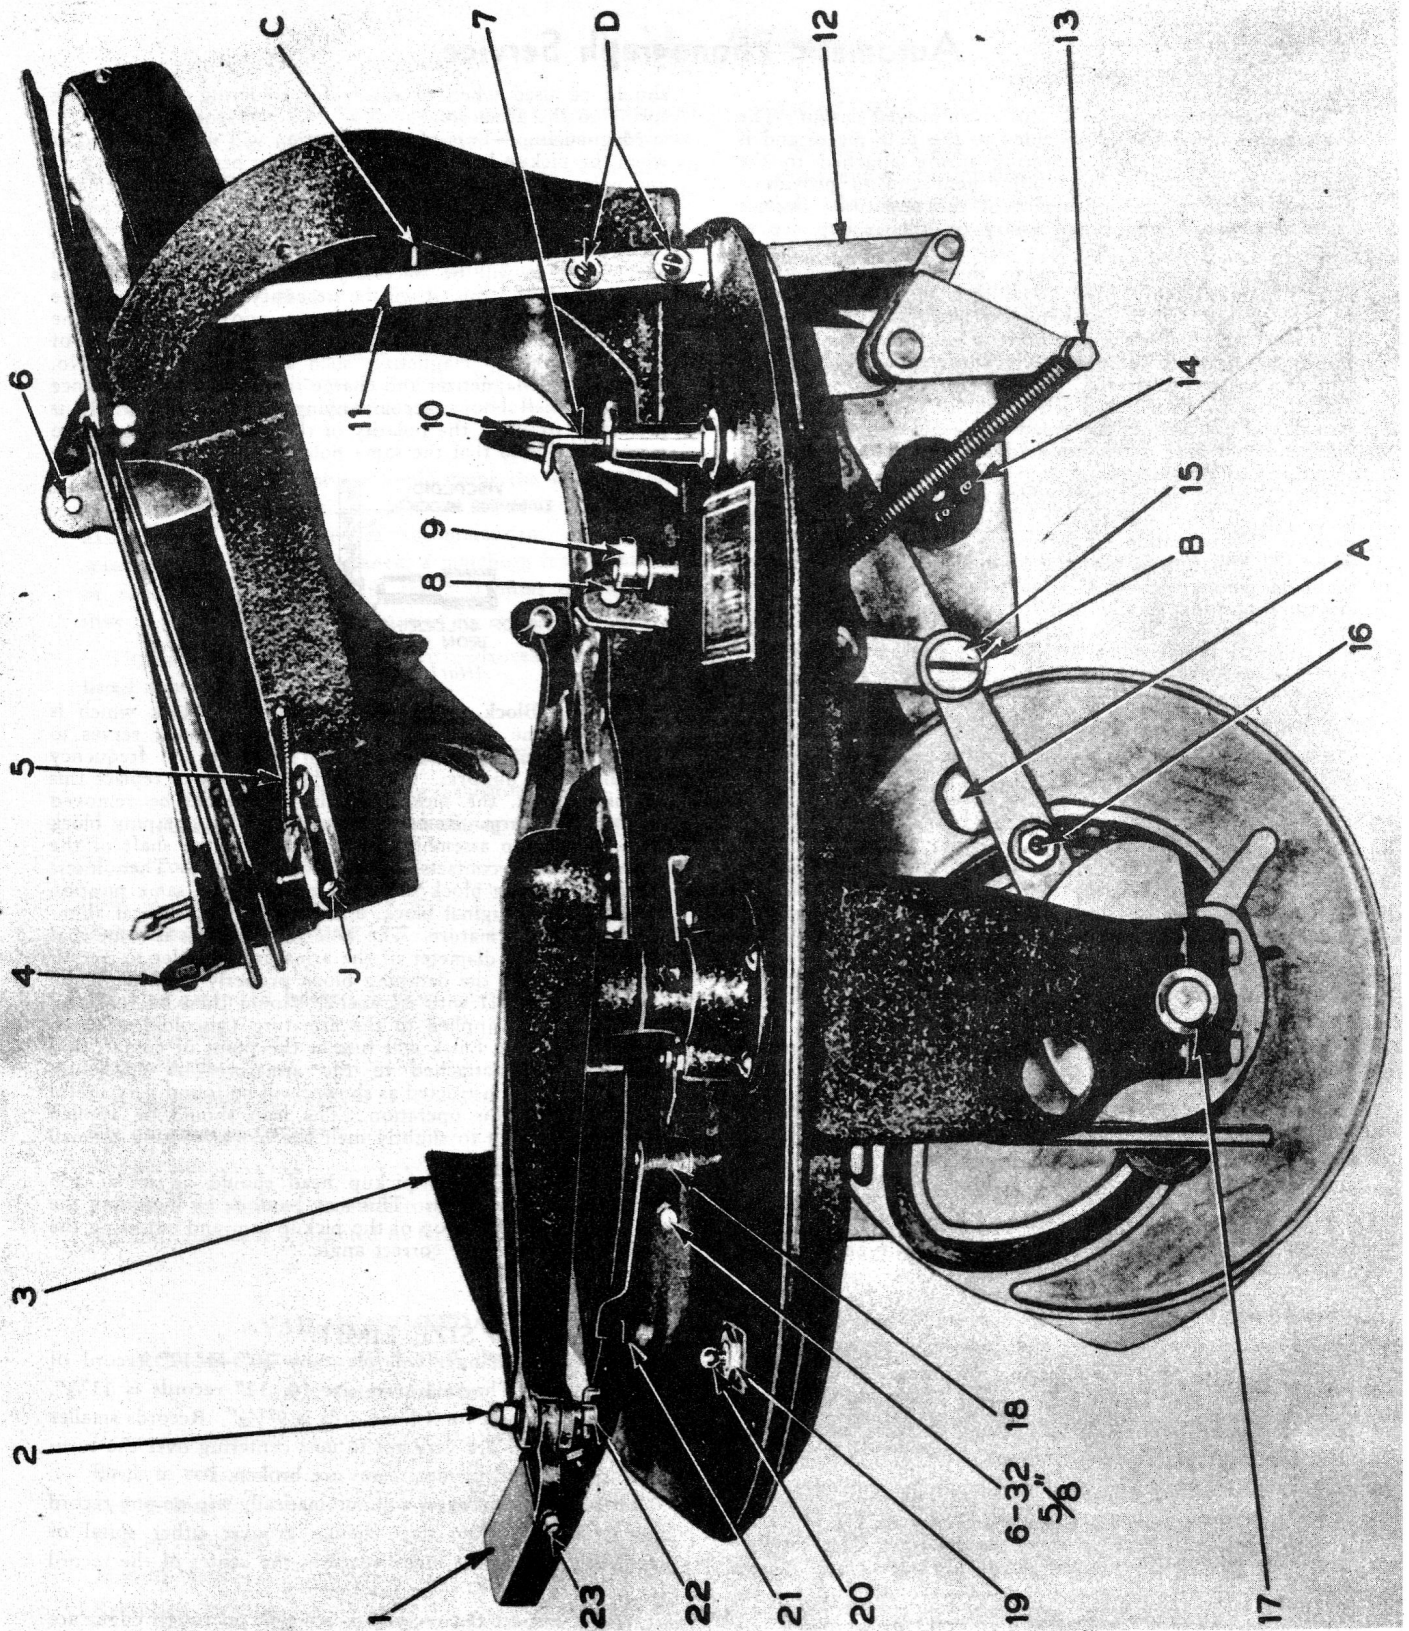

Fig. 1
**Pickup Angle.**—The pickup head should be set at 15° angle to the pickup arm. This may be done by loosening the nut No. 2, Fig. 1 on top of the pickup arm and adjusting the pickup bracket to the correct angle.
NEVER OIL THE "DUREX" BUSHINGS (one of which is shown as No. 17 in Fig. 1), AS THIS WILL CAUSE THEM TO DISINTEGRATE.
## 1. MAGAZINE LINK ADJUSTING SCREWS ("D") (Fig. 1).
The record magazine should always come back snugly against the magazine stop screw, "C," Fig. 1. If it does not, it is necessary to loosen the two set screws ("D," Fig. 1) to a sliding tension and run the record changer through a cycle of change. When the magazine has reached the horizontal position, as shown in Fig. 1, press down on the lower end of the magazine; this will lengthen the link assembly. Then when the magazine returns to its normal position, the magazine link will adjust itself so that the magazine is snugly against the stop screw. Then tighten the magazine link screws "D."
The separator stop "J," Fig. 1, should be adjusted so that a small 10" record will positively clear the knife portion of the separator lever as shown in the following illustration. A
standard to use is to make certain that there is approximately  $\frac{1}{32}$ " clearance between the edge of the small record and the point of the separator lever, as shown at "A" in illustration below. However, it may be necessary to vary one way or the other from this measurement, depending on whether or not the slotted end of the record separator lever goes over the hook (7) (Fig. 1) without binding.
After adjusting the record separator it will be necessary to check the record separator hook (7) (Fig. 1) to see that it enters the slot in the record separator without binding. This hook is threaded and by loosening the locknut the hook can be turned in either direction, to raise or lower it. After the correct adjustment is obtained, tighten the locknut.
## 4. RECORD MAGAZINE BUSHING (13) (Fig. 1).
If a ringing noise is heard while the instrument is changing records, i. e., such a noise that might be made by a spring, it will be found that the Durex bushing (13) (Fig. 1) is too tight, in which case it will be necessary to loosen the lock nut of the holding bolt, and back the bolt out, from a quarter to a half turn, then tighten the lock nut.
To adjust the tone arm height, first place a 12" record on the turntable and adjust the tone arm stop lever (18) (Fig. 1) so that the record hits the rubber roller (21) (Fig. 1) in the center. Start the record changer through a cycle and stop it when the tone arm lever hook (22) (Fig. 1) just touches the stop lever assembly. In this position adjust the tone arm height so that the top of the stop lever is the same height as the center of the hook. This adjustment is made by loosening the two Allen set screws at the rear of the tone arm.
## 6. TO ADJUST THE STOP LEVER HOOK (22) (Fig. 1).
Always adjust the tone arm position on a 12" record before adjusting for a 10" record. Adjust the tone arm stop lever hook (22) (Fig. 1) by moving it in or out. This hook is locked in place by a set screw in the stud whose nut is shown in Fig. 1 as No. 2. This set screw is at the bottom of this stud. Adjust the hook so that it will pass through the notch in the pickup arm lever (18) (Fig. 1) without binding against the top or bottom of the notch, when in the playing position. With a 12" record on the turntable, the rubber roller (21) (Fig. 1) against the edge of the record and the stop lever hook (22) against the blade of the stop lever (18) the needle should stop on the record exactly  $\frac{3}{32}$ " from the edge of the record.
With the record changer in exactly the same position as described above, and with a 10" record on the turntable and the hook (22) (Fig. 1) against the blade, the stop lever should allow the needle to stop on the record  $\frac{3}{32}$ " from the edge of the 10" record. A 6-32 screw shown in Fig. 1 is provided for making this adjustment, simply by screwing it in or out. A check should be made for clearance between the roller and the tray, this roller should never bind on the record tray. This can be taken care of by slightly bending the tone arm stop lever (18) (Fig. 1) up or down. If it is necessary to bend the stop lever it will be necessary to re-adjust for 12" records.
Before attempting to adjust the magazine, be sure that the center of the magazine pivot pins (6) (Fig. 1) is  $8\frac{3}{8}$ " above the base plate. This height is very important and we recommend checking the height of the right hand pin, when looking at the magazine, before any adjustments are made.
If the magazine has been adjusted, it is also necessary to see that the record separator hook (7) (Fig. 1) does not bind in the slot in the end of the record separator arm (45) (Fig. 2). If it does the section covering these parts give the adjustment.
The magazine stop screw "C," Fig. 1, should be adjusted so that the crank pin (part of 9, Fig. 1) is approximately  $\frac{1}{16}$ " from the edge of the record reverse arm fork (part of 4, Fig. 2) which is furthest from the magazine, when the record reverse guide is in front of the magazine, that is, in the reversing position.
With the two gears properly meshed, loosen the Allen set screws which hold pins No. 8, Fig. 1, in place. This will allow you to move the record tray sideways, adjust tray sideways until the turntable spindle is exactly in the center of the 10" record level of the record tray. (The 10" record level is that part of the tray where the felts No. 24 are indicated in Fig. 2.)
With the control lever in the "one side" position, run the record changer through its cycle until the large hole in the main cam is exactly half way past the upper edge of the record tray cam follower, as shown at "A," figure 1. At this position, the points of the ten-inch felts (24) (Fig. 2) should be level with the top of the turntable felt. If this tray is too low or too high, it may be adjusted to the proper level by loosening the eccentric screw (15) (Fig. 1) "B" and turning this screw until the proper level is obtained. Be sure to tighten the lock nut after adjustment.